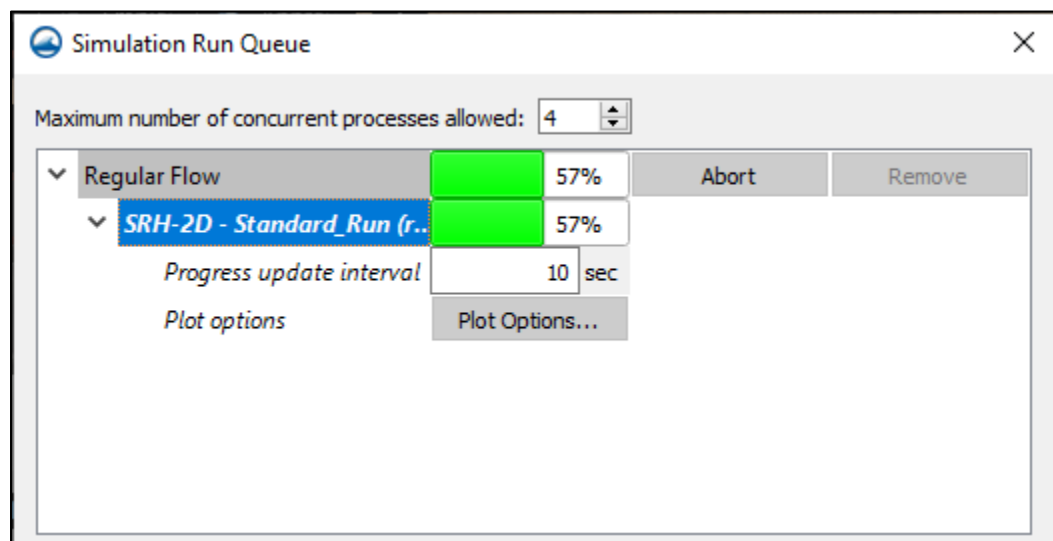

Figure 4 SRH-2D Simulation Run Queue
3. In the top portion of the *Simulation Run Queue* dialog, under the “Regular Flow” item, select the “SRH-2D” item as showing in Figure 4.